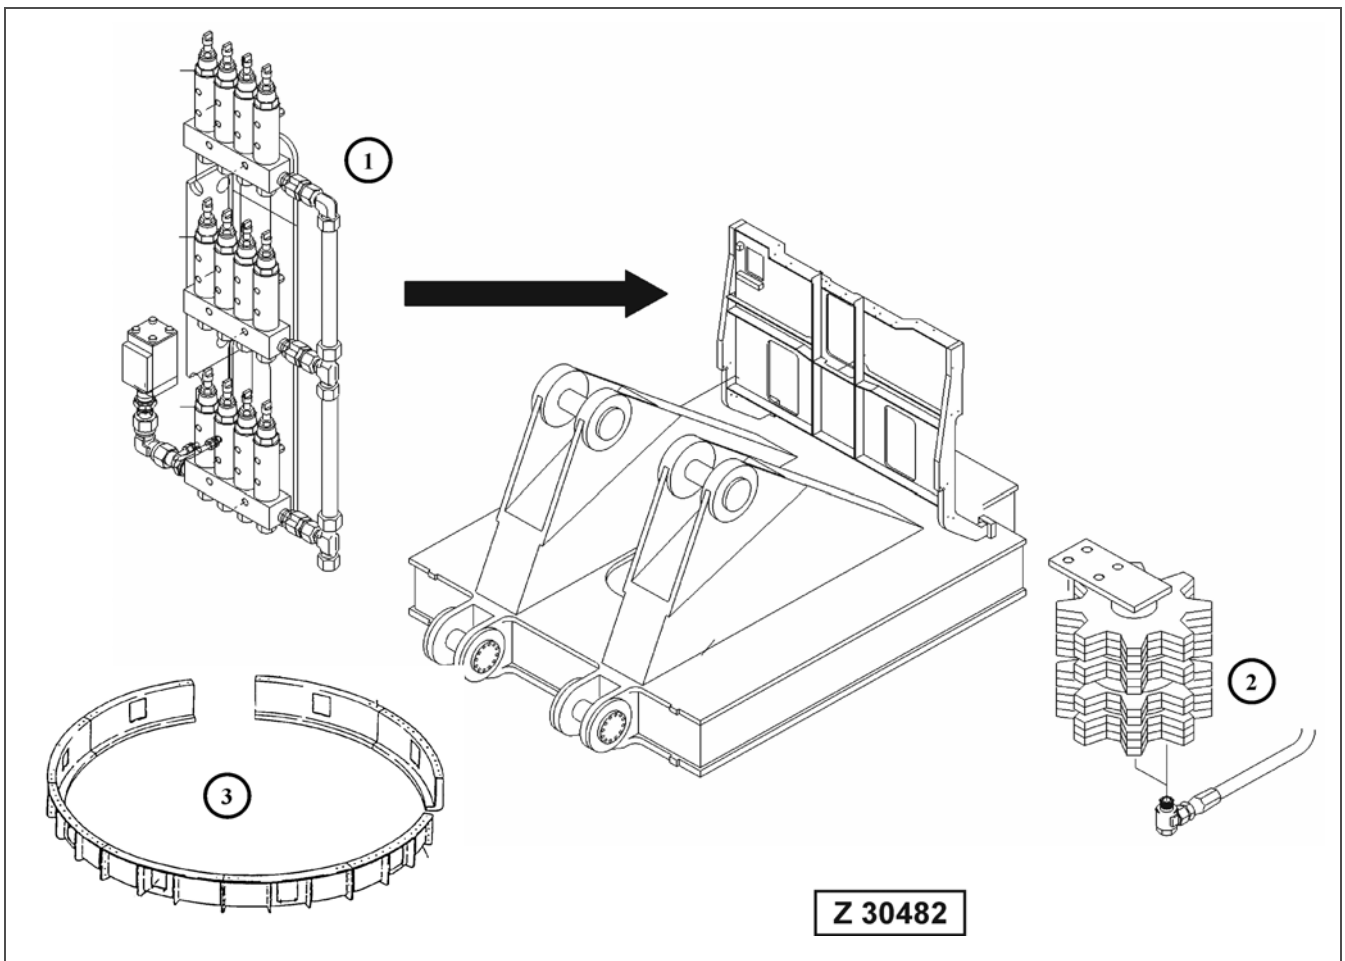

Fig. 4-243
**Legend for Fig. 4-243**
- (1) Mounting plate of grease injectors
- (2) Pinion for slew ring
- (3) Slew ring guard (if so equipped)
If the excavator is equipped with gear ring guard (3) for the slew ring (see Fig. 4-243), remove covers for gear ring inspection.